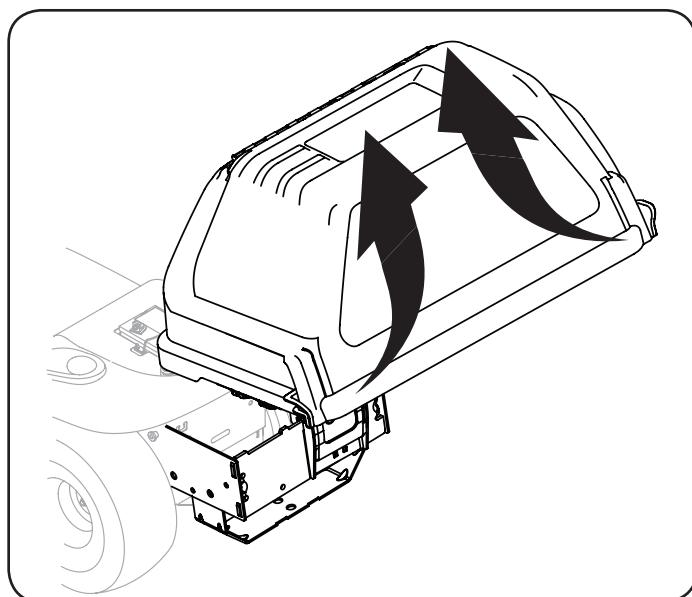

Figure 17
6. Open the bagger cover by pushing in on the tabs and lifting the upper grass catcher cover See Figure 17.